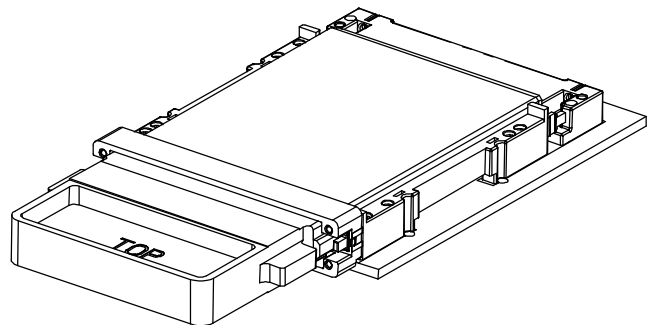

Figure 10
6. Insert the alignment aid until it stops on the receptacle cover. The backer plate will only accept the aid if inserted with the proper orientation. Tighten the four M3 screws. Remove the alignment aid. See Figure 10.